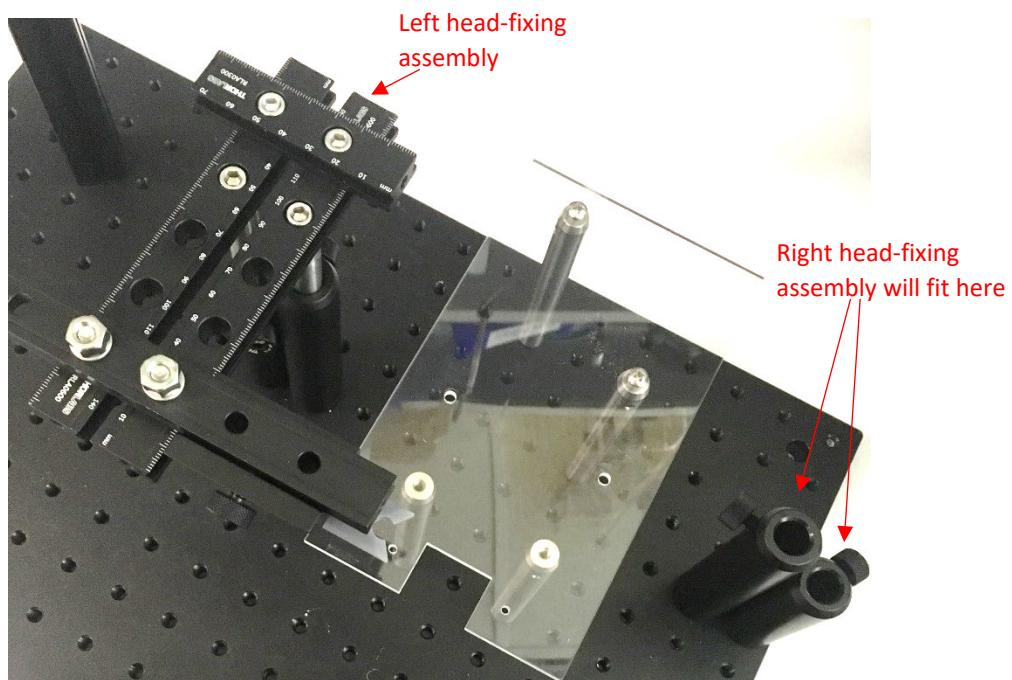

Figure 11 Base with left head-fixing assembly complete and installed
- Insert the two optical posts into the left-hand 3" and 4" post holders with the clamp side facing forwards. The thumbscrew on the 4" post holder can be used to set the height of the head-fixing assembly. See Figure 11 for the results of this step.